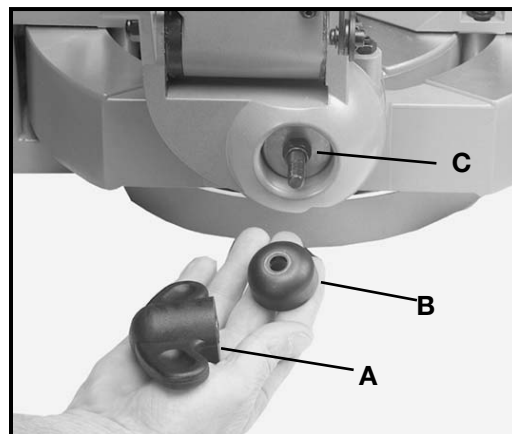

Fig. 27
After a long period of time, it may become necessary to adjust the sliding fit between the trunnion (A) Fig. 27, and the bevel bracket (B) by tightening the adjusting nut (C), Fig. 27, located underneath the bevel lock (A), Fig. 27, and collar (B) Fig. 27.